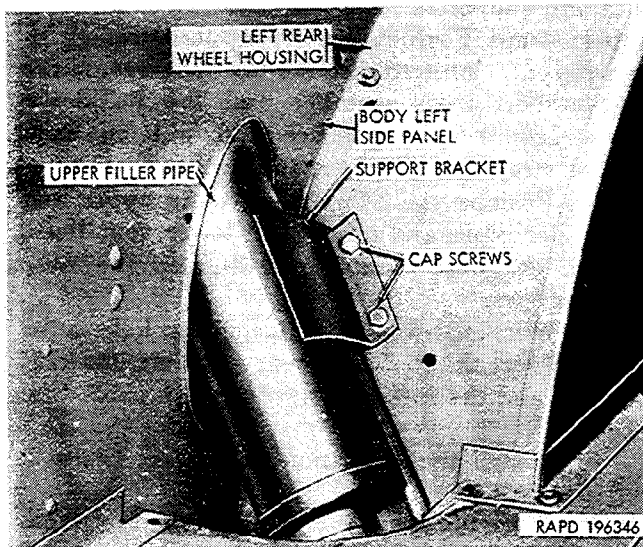

Figure 2-111. Upper fuel filler pipe (cargo truck M37).
(2) On cargo truck M37 remove the eight nuts, lockwashers, and screws that secure the side filler fuel housing, and remove the housing. Remove the two nuts, lockwashers, and screws that attach the upper filler pipe support bracket to the left rear wheel housing (fig. 2-111).
(3) On the ambulance truck M43 or telephone maintenance truck M201 remove the two lockwasher screws that secure the upper filler pipe support bracket, working from the underside of the left rear fender.
(4) Remove the filler pipe and attached hoses by pulling them from the opening in the side of the vehicle.
(5) Loosen the two hose clamps, and remove the hoses and clamps from the filler pipe and the vent line. Discard the hoses. Replace the hose clamps if they are damaged.
(6) Clean the hose contacting surfaces of both the upper and lower filler pipes and the upper and lower vent lines, and apply a coating of liquid type gasket cement to the surfaces. Install the filler pipe hose on the upper filler pipe, using a 3-inch length of $2\frac{1}{4}$ -inch length of $2\frac{1}{4}$ -inch (ID) hose. Install the vent line hose on the upper line, using a $2\frac{7}{8}$ -inch length of $\frac{1}{2}$ -inch (ID) hose. Install the two clamps loosely on each hose.
(7) Install the upper filler pipe and attached hoses, guiding the hoses over the lower filler pipe and the lower vent line, and aligning the screw holes in the support bracket with those in the wheel housing or left rear fender.
(8) Install the filler pipe support bracket retaining screws. For the cargo truck M37, install the two capscrews, lockwashers, and nuts (fig. 2-111). For the ambulance truck M43 or telephone maintenance truck M201, install the two special lockwasher screws from the underside of the fender into the weld nuts on the bracket. Tighten the parts.
(9) Position the filler pipe hose so it extends an equal distance over the upper and lower filler pipes, position the two clamps, and tighten the clamp